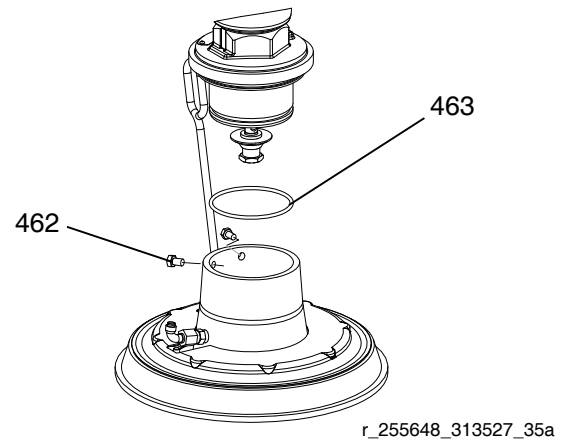

**FIG. 18: 55 and 30 Gallon Mounting Kit**
1. Place o-ring (428) from mounting kit 255392 on the platen. If attached to plate, place displacement pump onto platen. See FIG. 18.
2. Secure pump's intake flange to plate with screws (426), washers (425), and clamps (427) included in mounting kit 255392.